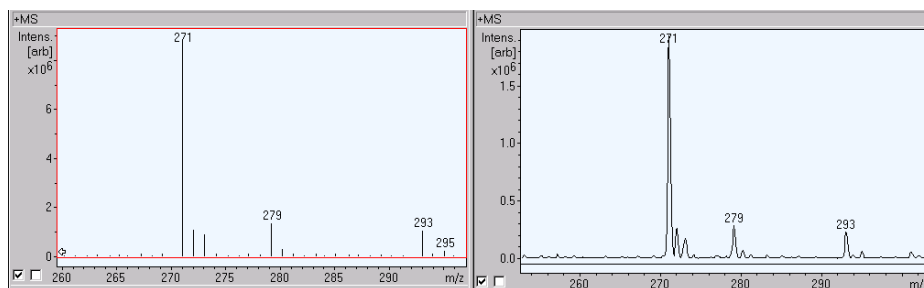

Figure 3 Comparison of a Line spectrum and Profile spectrum
- To adjust the frame border move the cursor to the edge and click and drag the border until your screen appears as in Figure 3.